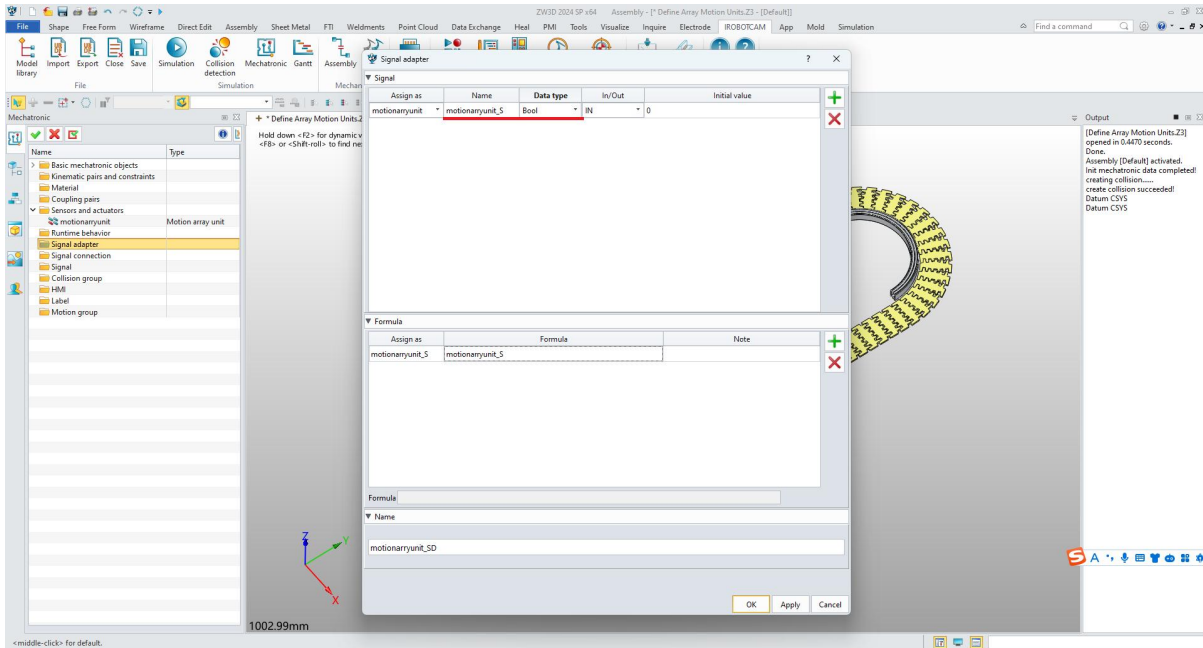

Figure 7-15: Signal Adapter Information
- Specify the desired signals, formulas, and names to define the operational behavior of the conveyor belt. (Figure 7-15)